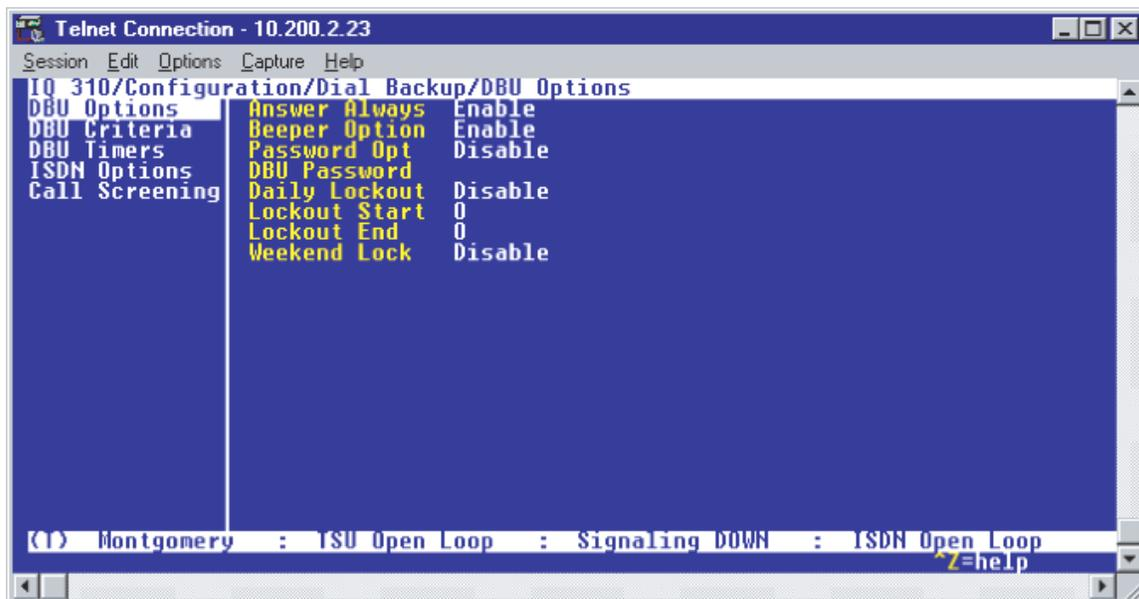
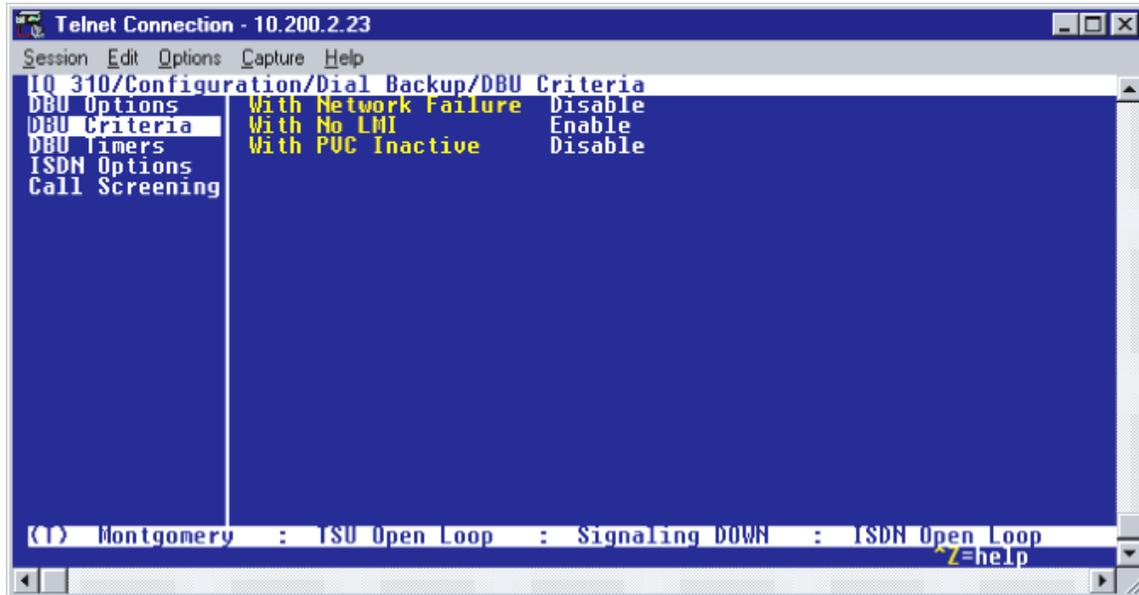

Figure 36. DBU Options Menu
Figure 37. DBU Criteria Menu
1. Press the down arrow to select **DBU OPTIONS**; then press **<ENTER>**. The screen shown in Figure 36 will appear. The default parameter values for this screen are shown.
1. From the screen shown in Figure 36, press the down arrow to select **DBU CRITERIA**. The menu screen shown in Figure 37 is displayed. The default values for the parameters on this screen are shown.